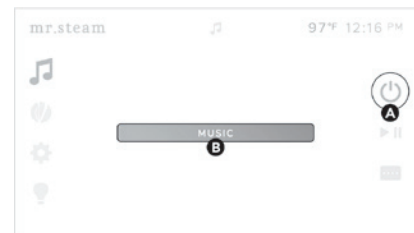

Figure 19
7. To turn off AudioSteam (**Figure 19**), tap the **POWER** icon (**A**), and then tap the **MUSIC** button (**B**).